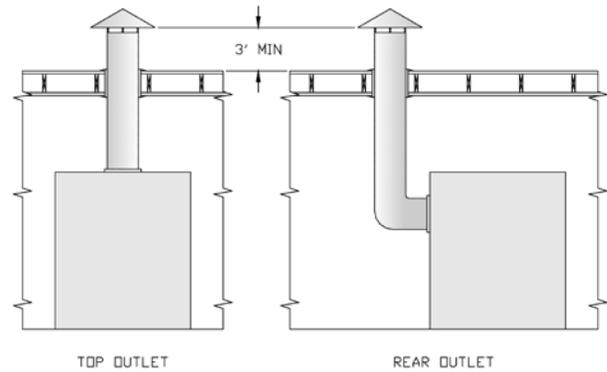

Figure 3a: Typical Arrangement For Stub Vent
The V11H Series boiler is designed for forced draft firing and may be used with a conventional natural draft stack (15' minimum height) or a stub vent, sometimes called a diesel stack (see Figure 3a). See Table I for the proper vent outlet size. For low silhouette vent terminations, see Figure 3b. Draft controls are not normally required, although they may be used on installations where a natural draft stack is used or on multiple boiler installations with a common stack. The boiler is provided with a breeching damper, which should be adjusted to maintain a positive pressure of 0.1" W.C. in the vent connector box during burner high fire operation (see breeching pressure sensing port in Figure 1).
If the venting system is designed for positive or forced draft venting, the boiler, vent connector and stack will operate under positive pressure. Gas tight vent systems designed for pressure systems must be used to prevent flue by-product leakage. The vent height is usually limited to prevent negative draft, typically three (3) feet above the roof line (see Figure 3a). The damper shall be adjusted to maintain a positive pressure of 0.1" W.C. in the vent connector box during burner high fire operation (see breeching pressure sensing port in Figure 1).